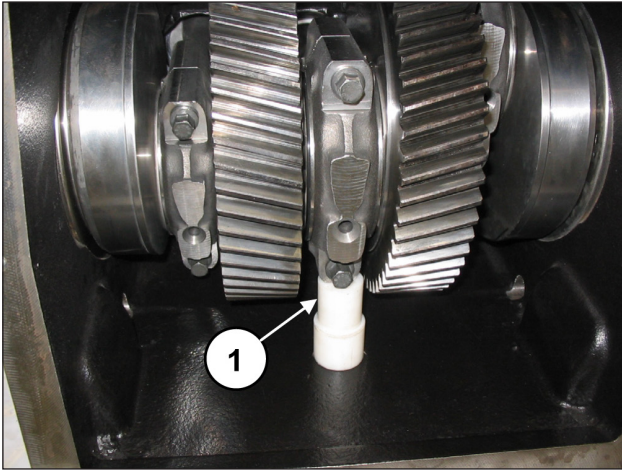

Fig. 84
Insert a shim under the shank of the central connecting rod, to stop the rotation of the bend shaft (pos. ①, Fig. 84).